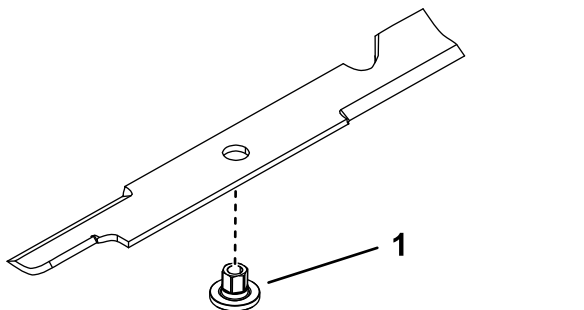

Figure 75
1. Install the bushing through the blade with the bushing flange on the bottom (grass) side of the blade (Figure 75).